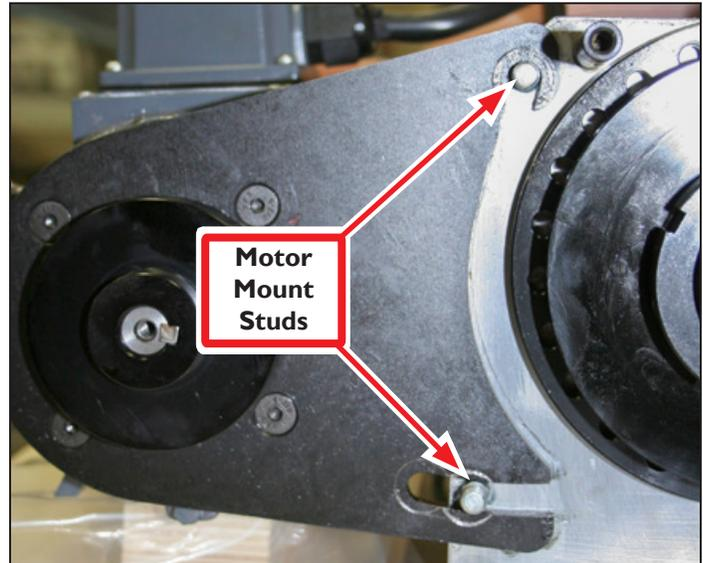

Figure 2.8
6. Slide motor sideways off of two Motor Mount Studs (see **Figure 2.8**); set aside.
**NOTE:** Motor Bracket hooks around top Motor Mount Stud and slides on to bottom Motor Mount Stud (see **Figure 2.8**).